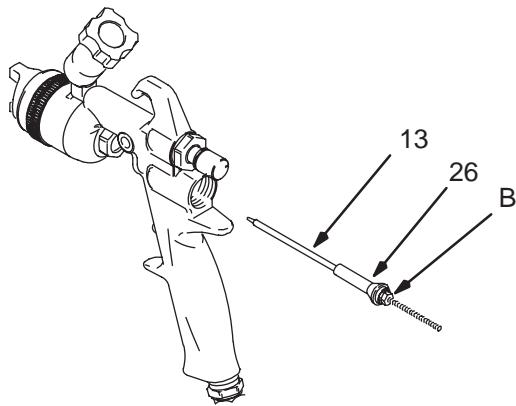

Fig. 29 _____
2. Tighten the hex nut (9) onto the adapter (4) hand-tight, then loosen the nut about one turn so the adapter (4) and spray housing sit loosely in the gun body.
3. Check the fluid needle (13) for damage or excessive wear. Replace needle tip or entire needle if necessary. If replacing needle tip, use low strength thread locker on needle tip threads.
4. Lubricate the outside of the new air valve assembly (26) and place it on the fluid needle (13), against the nut (B). See Fig. 29. This helps align the entrance of the air valve stem into the inside diameter of the u-cup (16) without damaging the u-cup lid.
5. Install the fluid needle (13) and the air valve assembly (26) into the back of the gun.